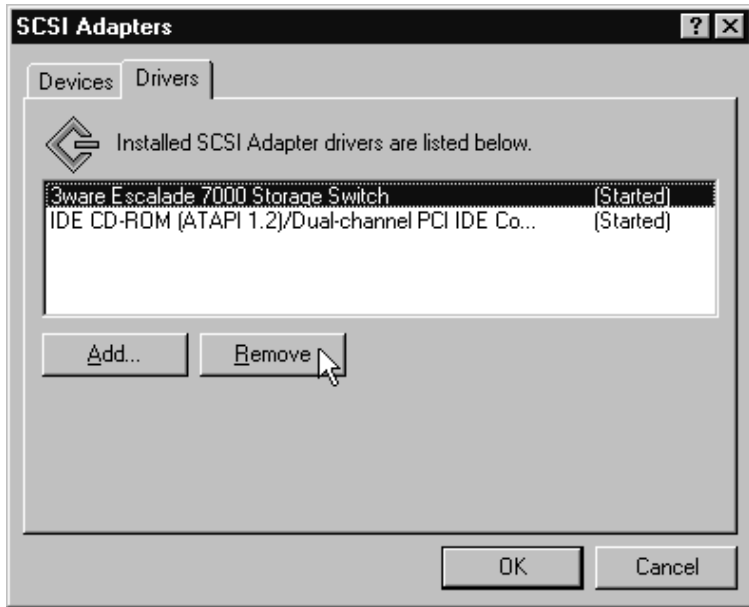

Figure 23. Remove Current Driver
- 7 Select the current driver in the **SCSI Adapters** window, then click on the **Remove** button (see Figure 23).
- 1 Click on the **Add...** button (see Figure 23). The **Install Driver** dialog appears (see Figure 24).